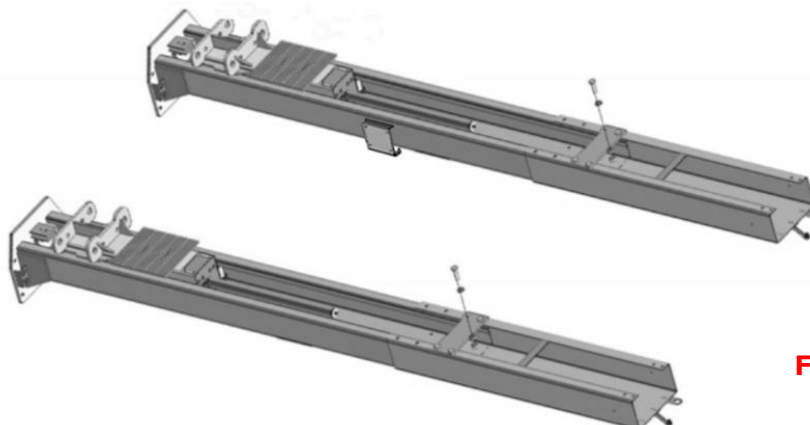

Fig. 20 Low setting
2. Low Setting: connecting the extension columns with the upper hole (**See Fig.20**).